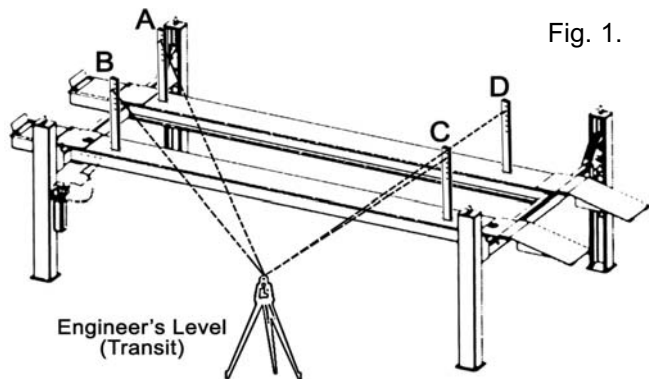

Fig. 1.
5. Check to make sure that all slack safety locks are cleared and free. (See Fig. 1.)
4. Place a Level target on the right/front corner of the runway. (See Fig. 1.)
5. Beginning with "A" position, sight the level to the target and mark the number or the graduation on the inch scale of the target that aligns to the cross hairs of the Level, (See Fig. 1.)
6. Next, move the target and place it at point "B" on the runway. (See Fig. 1.)
8. Adjust the adjustment nut on the safety ladder bar at the top of the column at "B" until the crosshair of the Level align to reference mark on the target scale. (See Fig. 1.)
9. Repeat steps locating the target assembly at points "C" and "D" and adjusting safety ladders at each corresponding column until the reference mark on the target scale is on the crosshair of the Level. The runways are now level at all four points. (See Fig. 1.)